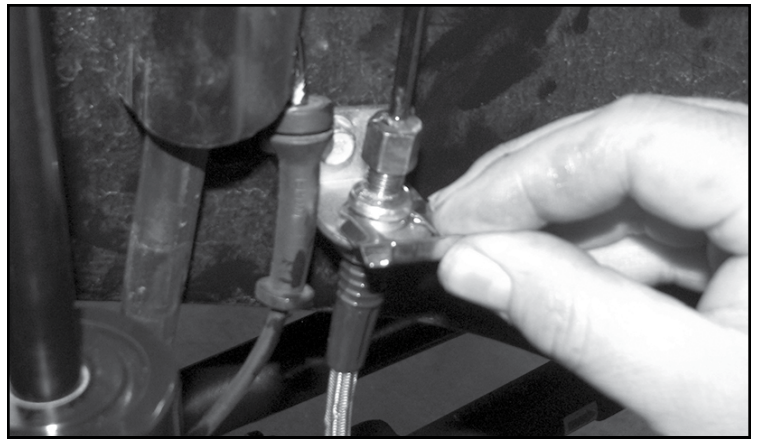

FIGURE 20 - STEP 3
3. Insert the new brake line fitting through the bracket and install onto the factory brake hard-line. Next, install the supplied u-clip to secure the line to the bracket. **SEE FIGURE 20**